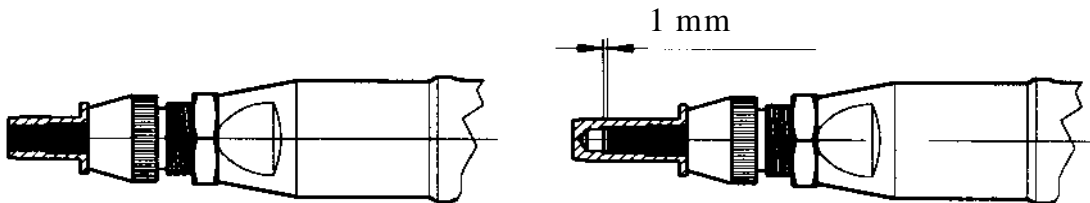

Fig. 3
Adjustment of the anvil (fig 3)
- Adjust the anvil position as indicated in figure 3
- After the adjustment, tighten the anvil lock-nut (2) at 10 Nm.